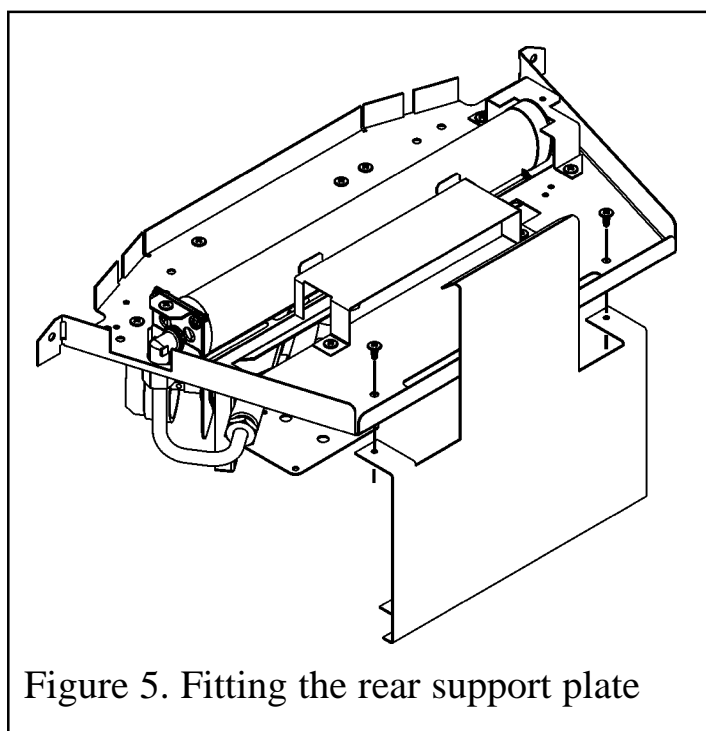

Figure 5. Fitting the rear support plate
6.3.1 Prior to installation of the burner the rear ceramic support bracket must be fitted (See figure 5). Secure with two self-tapping screws but do not over-tighten as these will have to be removed again when installing the burner.